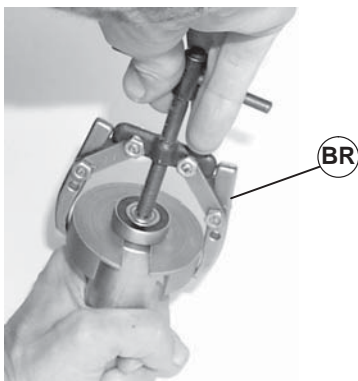

Figure 36
2. Using a puller (Figure 36, item BR), remove and discard bearing.